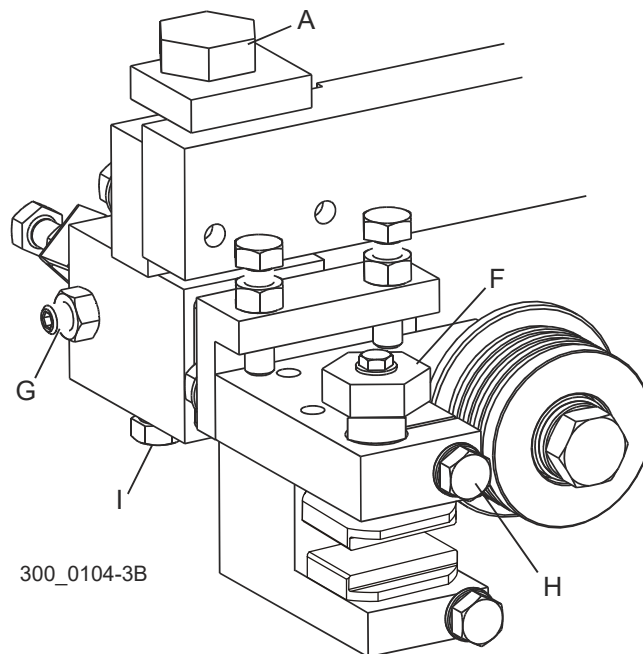

FIG. 3-23
See Figure 3-23. Standard Roller/Block Guides: Move the guide assembly forward until the roller flange is 1,5mm-3mm (1/16"-1/8") from the back edge of the blade and tighten clamp bolts (G) and (I). Turn blade guide assembly bolt (A) clockwise to raise the bottom guide block up until it touches the blade, but does not deflect it upward. Turn top guide block bolt (F) clockwise to move top block down until it touches the blade, then back 1/4 turn. Tighten clamp bolt (H). Repeat for other blade guide assembly.